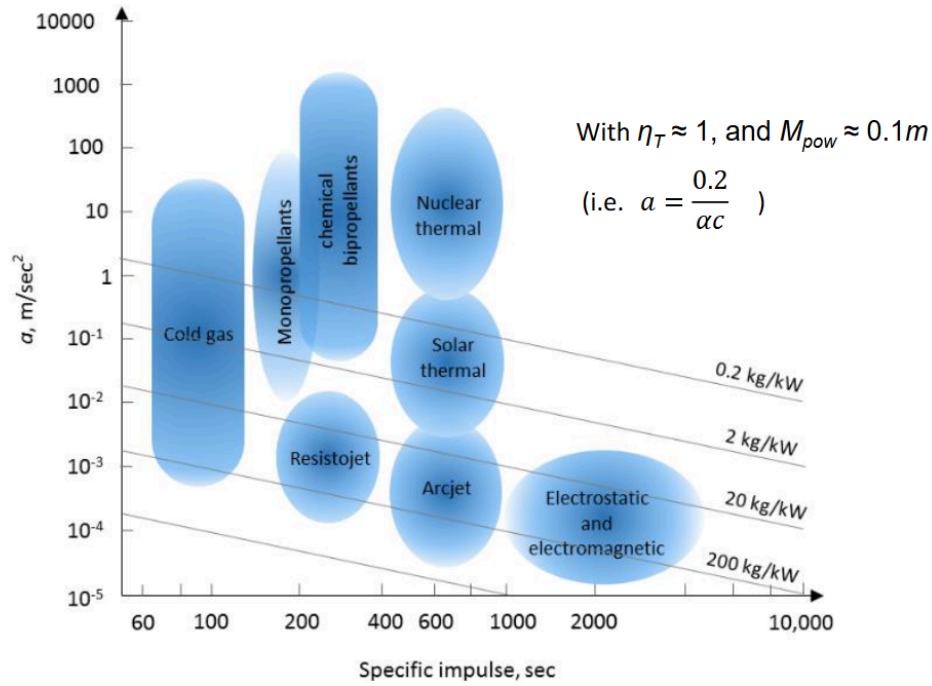

Figure 6: Variation of spacecraft acceleration against performance.
**Eq. 9** shows that  $a$  and  $c$  are inversely proportional from one another, meaning a high acceleration will typically mean a low effective exhaust velocity and vice versa. A showing how performance varies with acceleration is shown in **Figure 6**.
Note that for electrical propulsion systems shown in **Figure 6** a higher  $I_{sp}$  means a lower acceleration as  $I_{sp} \propto c \propto \frac{1}{a}$ . Different power sources have different values of  $\alpha$ , for example: